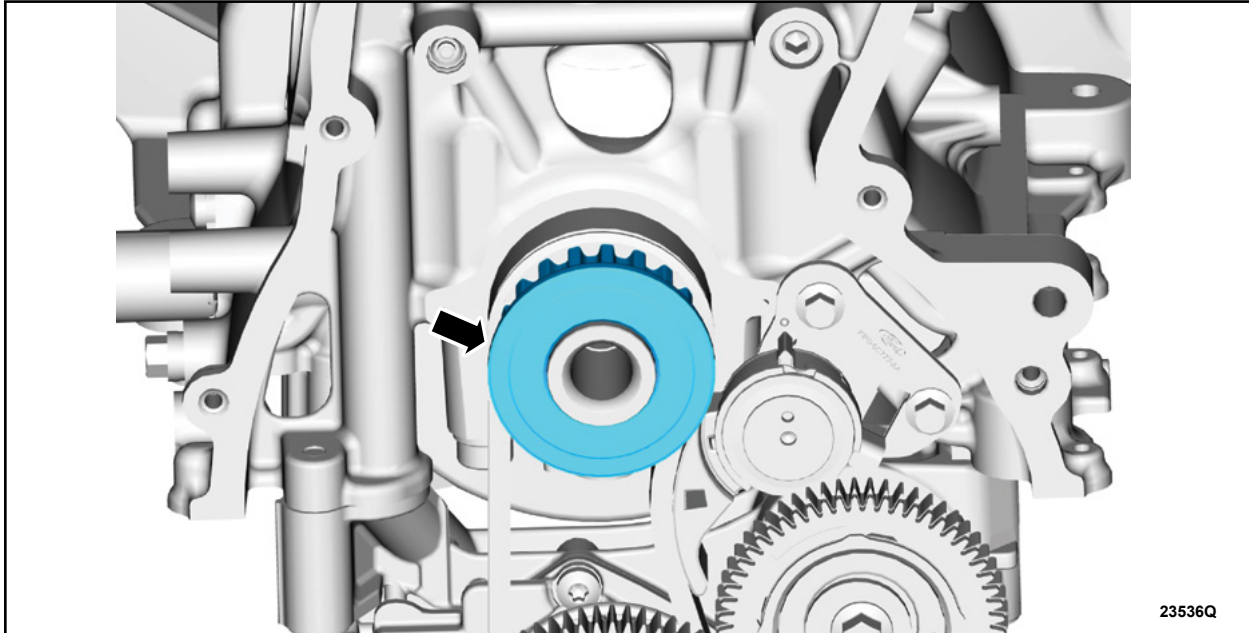

FIGURE 27
34. Install the timing belt sprocket. See Figure 27.